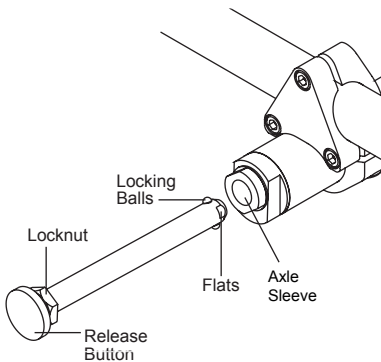

Figure 86
1. Depress the release button and remove rear wheel and quick release axle. See Figure 86.